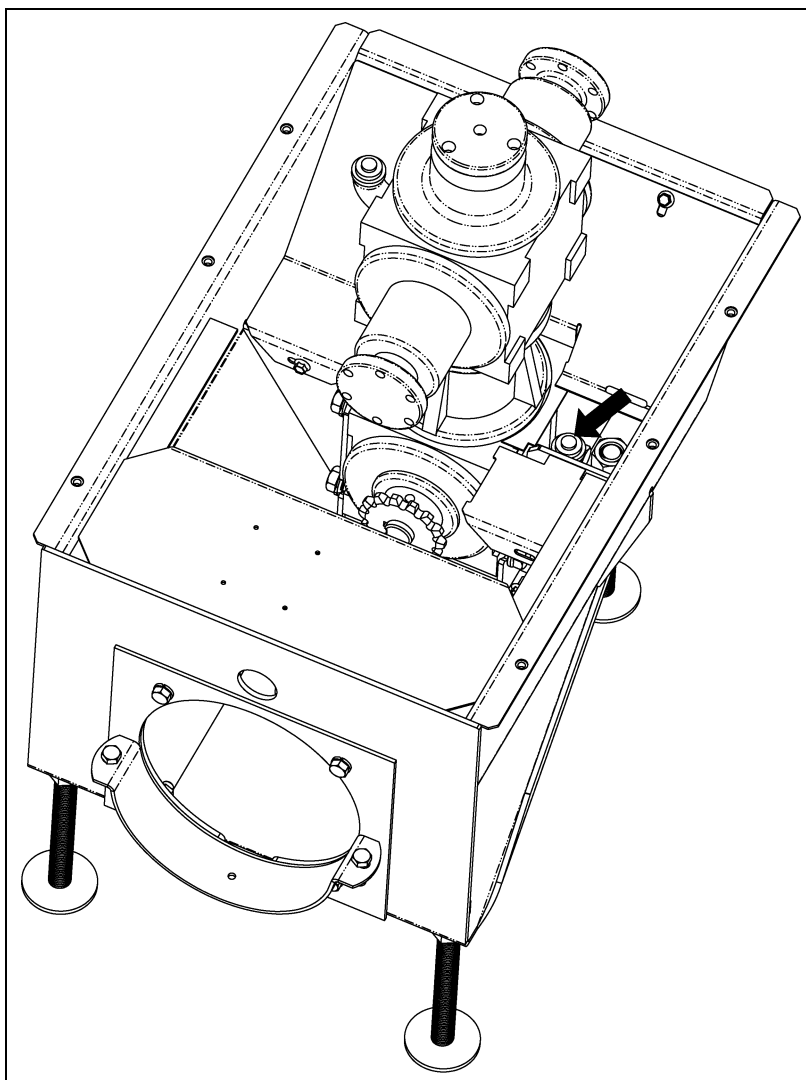

Figure 5F
8. Check the gearbox lubricant level by removing the inspection plate and the oil level plug. If lube is needed, add 90 weight gear lube to the level of the check plugs. Be sure to check upper and lower gearboxes. (See Figure 5F.)